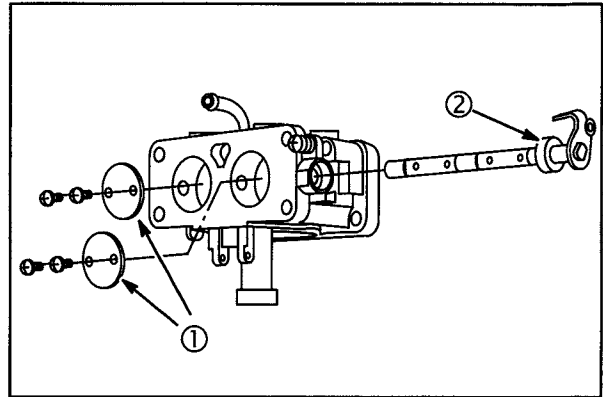

Fig. 123
- Assemble new seal (2) to throttle shaft and insert into carburetor body, **Fig. 123**.